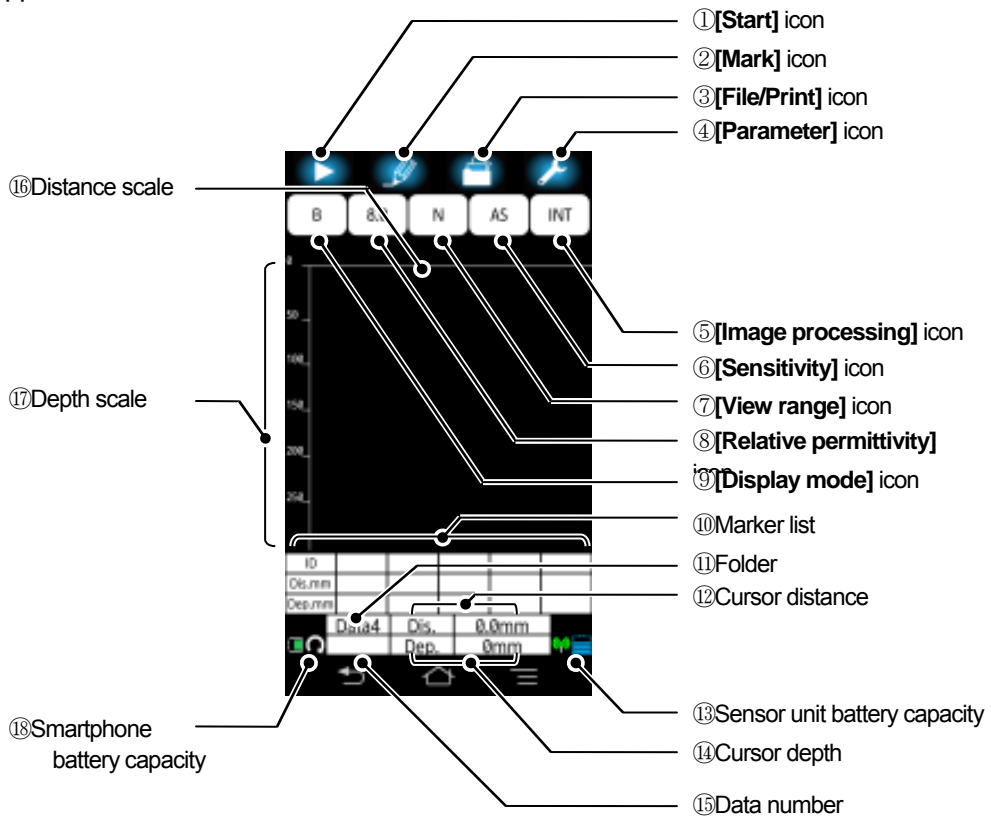

Figure 4-1 Main screen of NJJ-200 application
Figure 4-1 shows the name of each part which appears on the main screen of NJJ-2000 application.
At the idle state (not scanning), by tapping the B mode screen at the desired position, you can show the cursor at the tapped position. The cursor consists of horizontal and vertical lines. The coordinate of the cursor (cross point of the horizontal and vertical lines) is shown at the cursor distance and the cursor depth (Refer to Figure 4-1 ⑫ and ⑭).
At the idle state (not scanning), by tapping **[Mark]** icon (refer to Figure 4-1 ②), you can add or delete a marker at the cursor position (cross point of the cursor's horizontal and vertical lines).